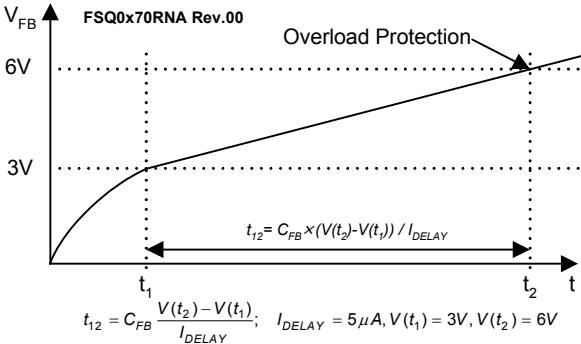

Figure 15. Overload Protection (OLP)
**4.1 Overload Protection (OLP):** Overload is defined as the load current exceeding a pre-set level due to an unexpected event. In this situation, the protection circuit should be activated to protect the SMPS. However, even when the SMPS is operating normally, the OLP circuit can be activated during the load transition. To avoid this undesired operation, the OLP circuit is designed to be activated after a specified time to determine whether it is a transient situation or a true overload situation. In conjunction with the  $I_{PK}$  current limit pin (if used), the current mode feedback path limits the current in the SenseFET when the maximum PWM duty cycle is attained. If the output consumes more than this maximum power, the output voltage ( $V_O$ ) decreases below nominal voltage. This reduces the current through the opto-coupler LED, which also reduces the opto-coupler transistor current, thus increasing the feedback voltage ( $V_{FB}$ ). If  $V_{FB}$  exceeds 3V, the feedback input diode is blocked and the 5µA current source ( $I_{DELAY}$ ) starts to slowly charge  $C_{FB}$  up to  $V_{CC}$ . In this condition,  $V_{FB}$  increases until it reaches 6V, when the switching operation is terminated, as shown in Figure 15. The shutdown delay time is the time required to charge  $C_{FB}$  from 3V to 6V with 5µA current source.